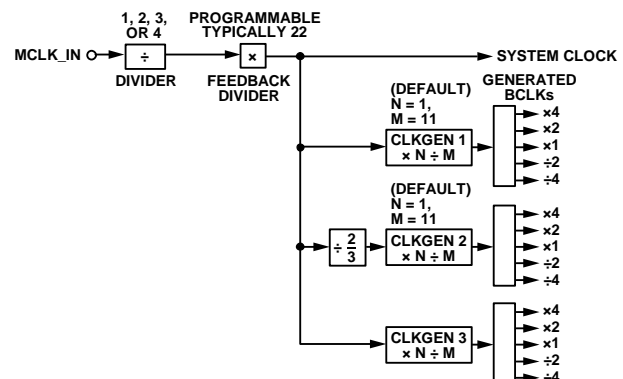

Figure 16. PLL and Master Clock Generators Block Diagram
For Clock Generator 1 and Clock Generator 2, the integer numerator (N) and the integer denominator (M) are each nine bits long. For Clock Generator 3, N and M are each 16 bits long, allowing a higher precision when generating arbitrary clock frequencies. Figure 16 shows a basic block diagram of the PLL and clock generators.